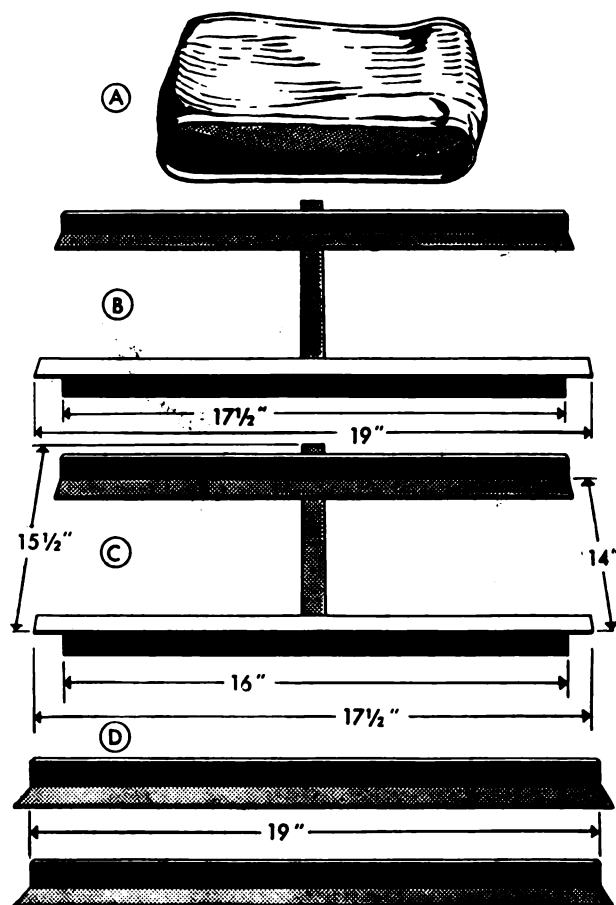

Figure 39. Parts necessary for adapting range, field, M1937, for pastry baking.
(1) For the bottom shelf, cut two angle irons, 19 inches long (D, fig. 39). Place these on the middle burner rails in the cabinet and lay on them any large flattened can (A, fig. 39). This can serves to distribute the heat evenly and will be found more satisfactory than a single piece of metal.
(2) For the center shelf, construct an angle iron pan rest in the shape of an H (B, fig. 39),
(3) For the top shelf, construct an H rest similar to that described in (b) above. (See C, fig. 39.) Make the rest  $17\frac{1}{2}$  inches wide and cut a notch  $\frac{3}{4}$  of an inch from each end of the front iron. Fit the rest onto the rails in the cabinet which are normally used for the roasting pan.